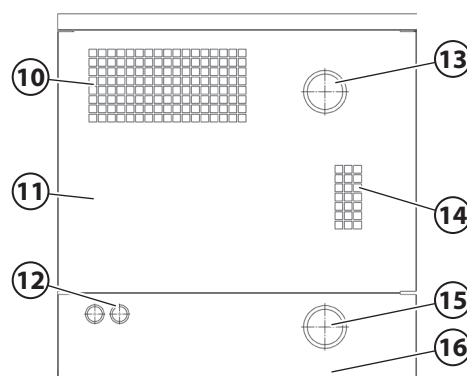

Fig.2
3.2 ROBOX ES (Fig.2)
3.2 ROBOX ES (Abb.2)